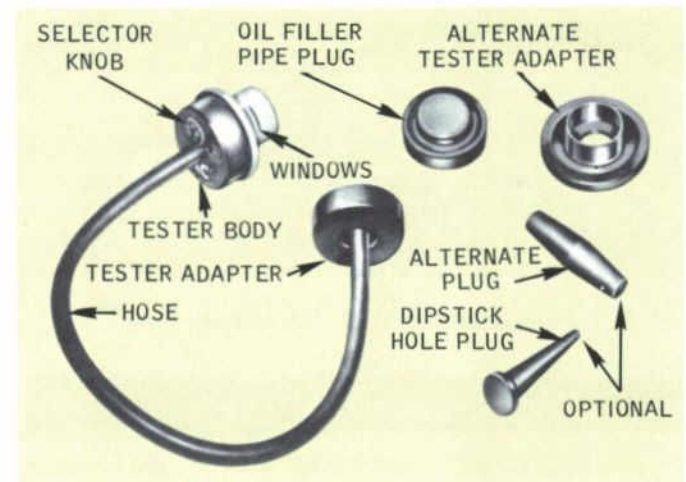

Fig. 4 — AC Crankcase Ventilation System Tester
This test uses the AC crankcase ventilation tester (Fig. 4), which is operated by the engine vacuum through the oil fill opening. Perform the following procedures to install the tester and check the crankcase ventilation system for faulty operation.
4. Insert the tester adapter in the filler cap opening and turn the selector knob (Fig. 4) to number 2 for the 240 6-cylinder and V-8 engines or number 4 for the 170 and 200 6-cylinder engines.